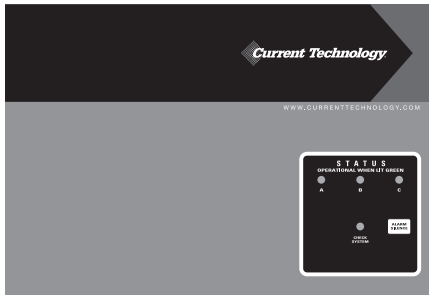

Figure 11: PX3 with M1 Standard Monitoring.
► If your PX3 has M1 Standard Monitoring (see Figure 11):